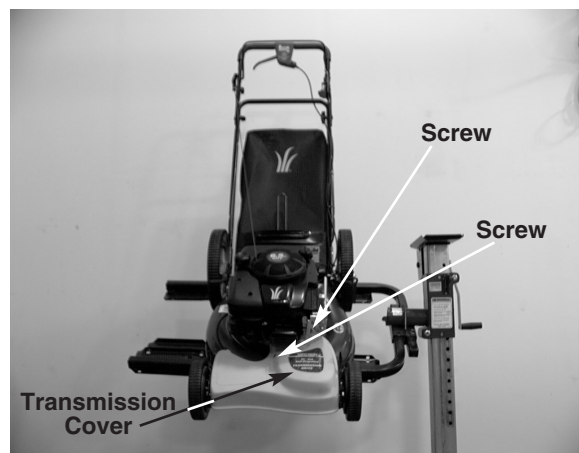

FIGURE 1.
1. Remove both of the transmission cover screws with a 1/4" socket. See figure 1.